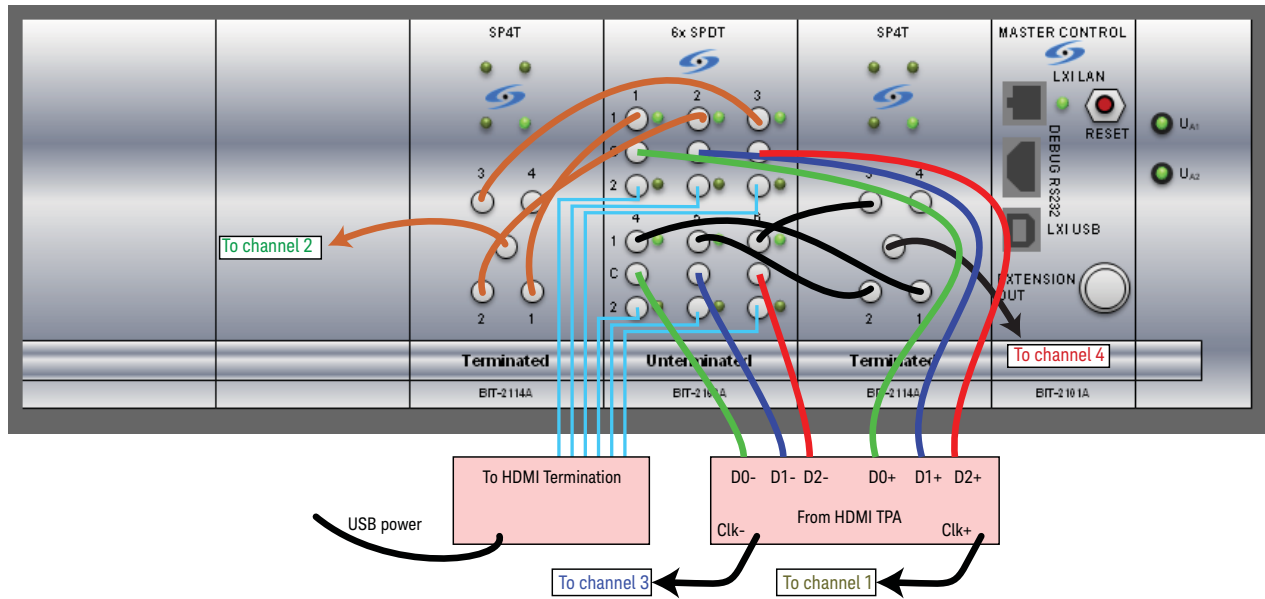

Figure 4 Cable connections on the BitifEye BIT-2100 switch for HDMI testing
- 2 Refer to Figure 4 on page 9 to connect the cables on the BitifEye switch for HDMI testing as follows:
- Route the top SMA, port 1, of these switches to the SP4T switches. Route all of the D+ signals from the HDMI device under test to module 3 through the SP4T switches, and route the D- signals to module 5 as shown in Figure 4.
You can configure the switching paths either automatically or manually. If you cabled the switches as shown in **Figure 4** on page 9, you can configure the paths automatically as described here. If you cabled the switches differently than shown in **Figure 4**, you need to manually set up the switch matrix to match the cabling (see **Appendix B**, “Configuring Paths Manually”).